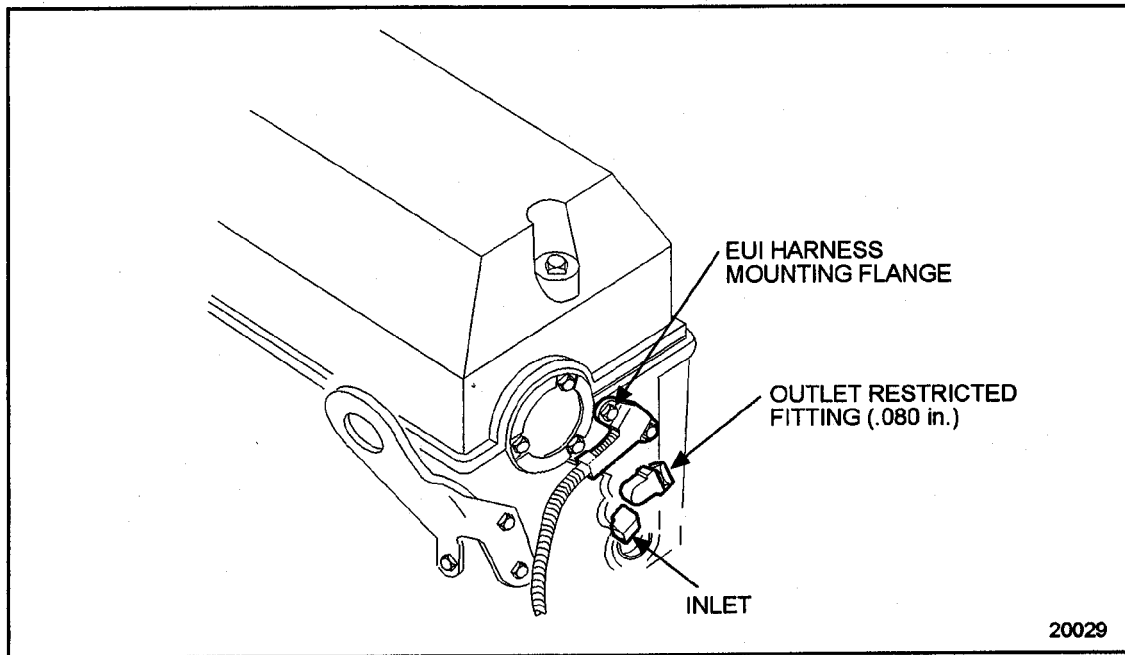

Figure 1-25 Fuel Gallery Inlet and Outlet Fittings
Fuel galleries machined into the head supply fuel under fuel pump pressure to all injectors, and excess fuel is returned to the fuel tank. The fuel gallery outlet (restricted) fitting is installed in the rear of the cylinder head. See Figure 1-25.
19. Remove the harness mounting flange from the rear of the cylinder head and carefully remove the harness from the head by pulling the harness through the hole in the cylinder head. See Figure 1-25.